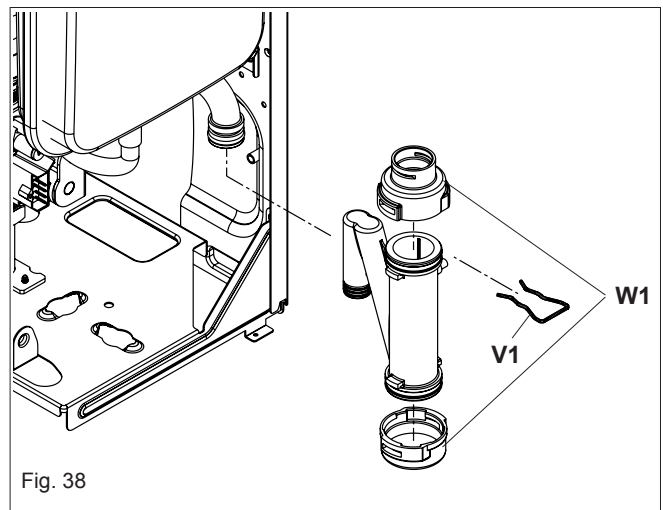

Fig. 38
6.19 CONDENSE TRAP REMOVAL (fig. 38)